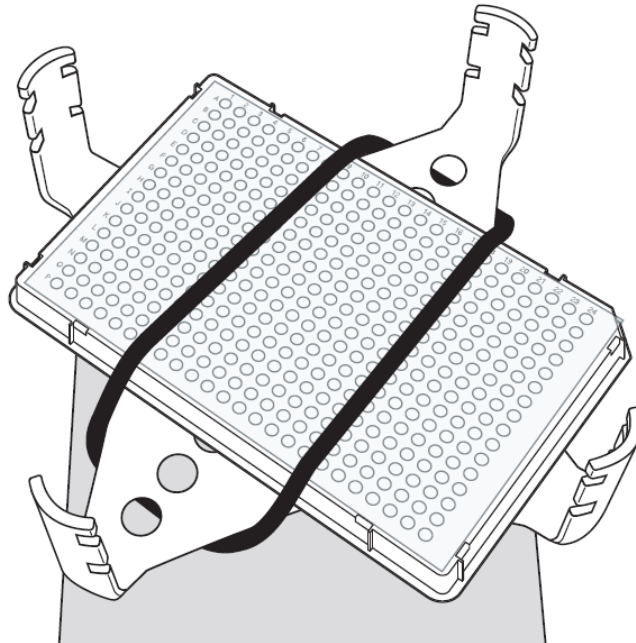

Figure 7 Recessed platform adapter: Elastic band position for 384-well plates
- For 384-well plates—See Figure 7.